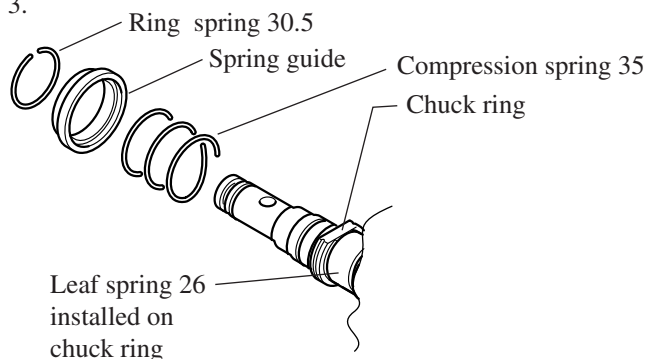

Fig. 3.
- (3) Remove ring spring 30.5 from chuck ring, and then, detach spring guide and compression spring 35 as illustrated in Fig. 3.